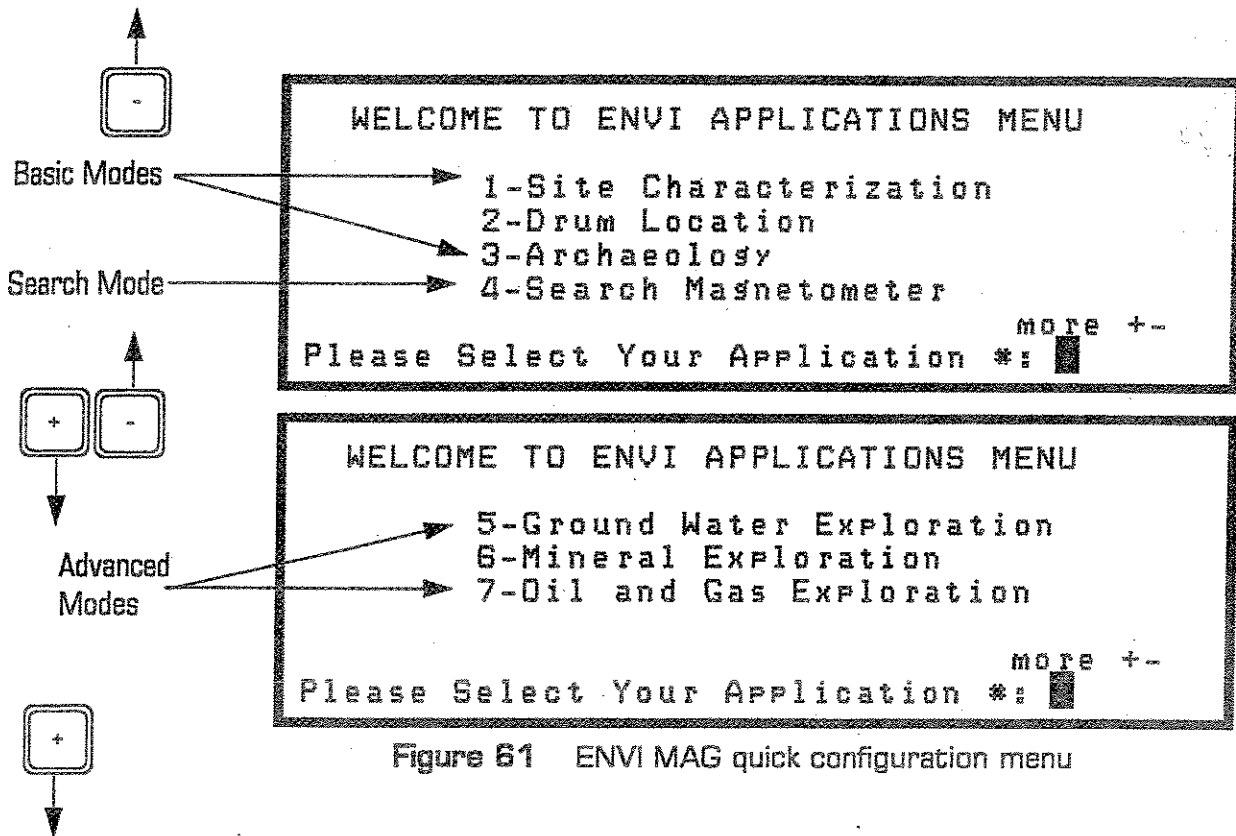

Figure 61 ENVI MAG quick configuration menu
- a. If you choose "1", you will be presented with a further set of menu screens allowing you to choose one of seven pre-defined magnetometer configurations in one of three operating modes (Figure 61 on page 5-4).